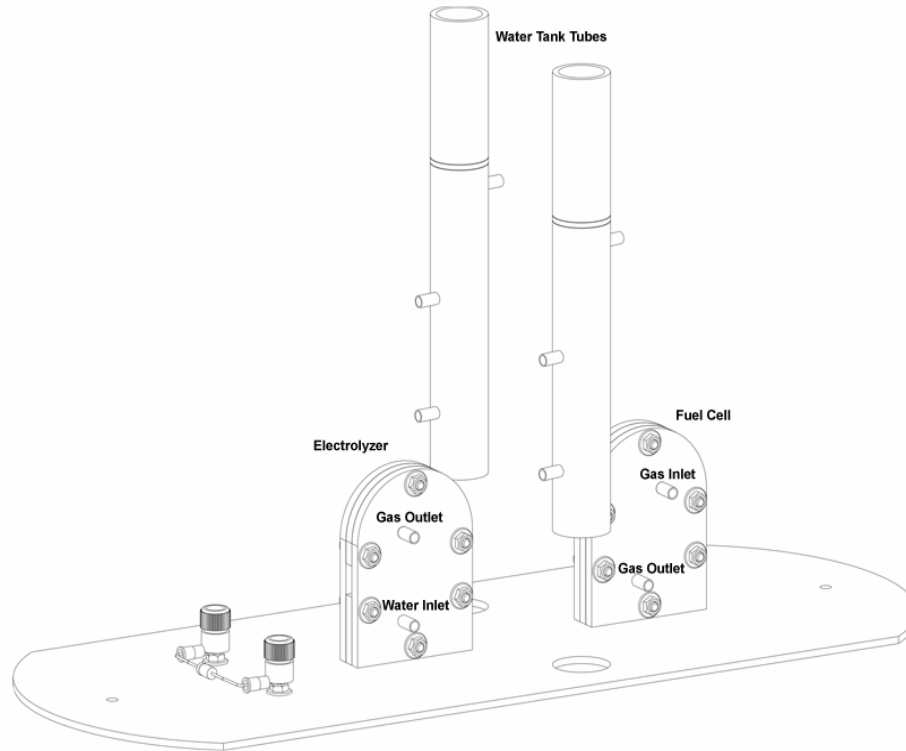

Fig 2. Placing the water tank tube to the base Plate
2. Place the water tank tube in the base plate. (Fig.2)